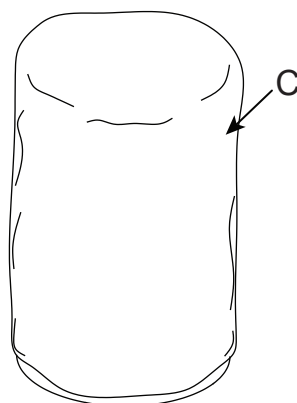

Figure 5
- Cover the fire pit with the outdoor weather cover (C) when not in use to protect it from the elements or when fire pit is cool COMPLETELY after the use, (See Figure 5).